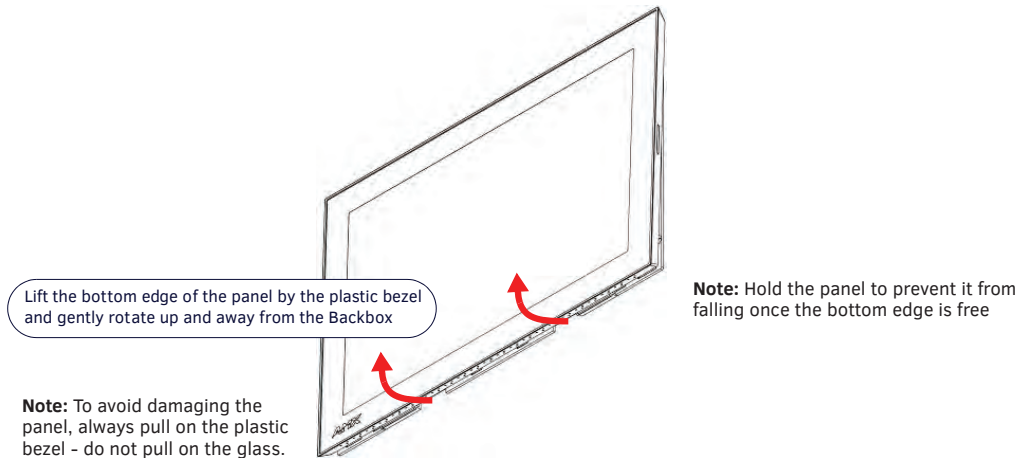

FIG. 30 MD-1002 Backbox Assembly (releasing the bottom edge of the panel)
2. Grasp the bottom of the panel and gently pull outward until the bottom edge of the panel is free of the Backbox. Use your other hand to stabilize the front of the touch panel. Always pull on the panel's plastic bezel - NEVER pull on the glass edge (FIG. 30):